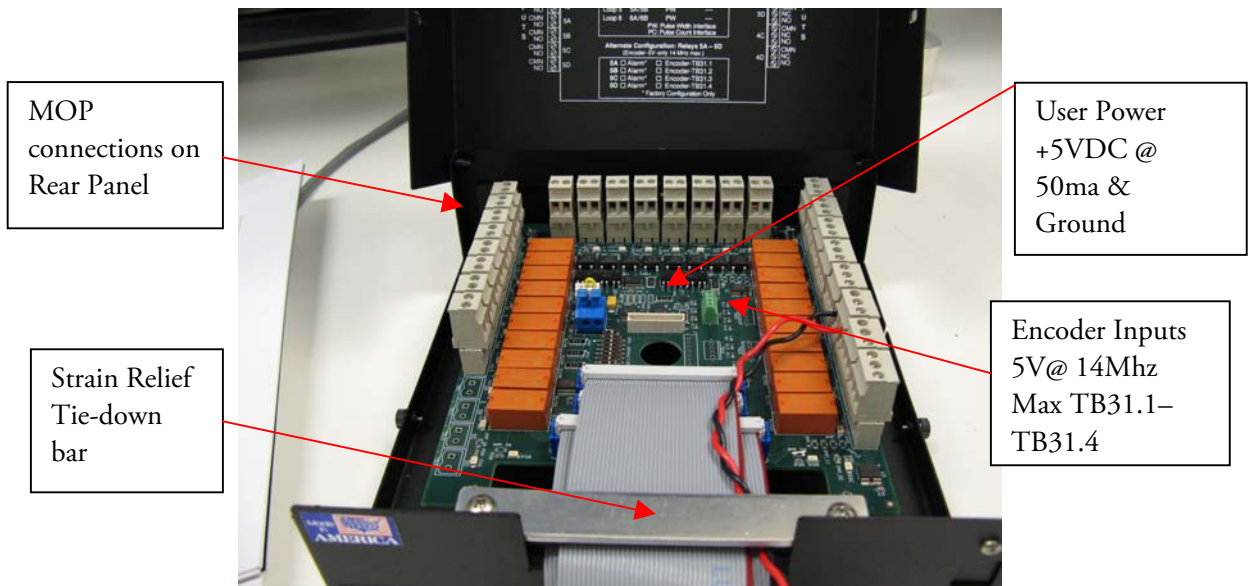

Figure 5. Hardware Configuration (continued).
5. Nest the cables as shown in Figure 5.